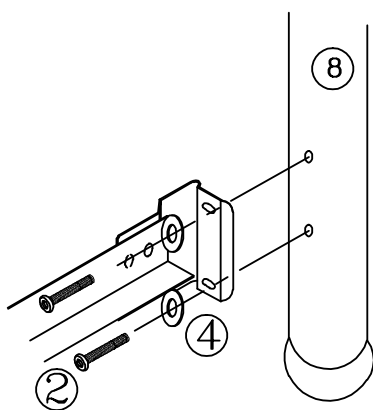

FIGURE 3
- Place a flat washer (4) first and then a nut (3) on each screw. Hand-tighten, DO NOT TIGHTEN screws all the way.
- Position footboard panel and align holes in the post (8) with holes in the frame bracket. (See figure 3)
- Place flat washer (4) on each screw (2). Insert through bracket and into post. Hand-tighten, DO NOT TIGHTEN screws all the way.